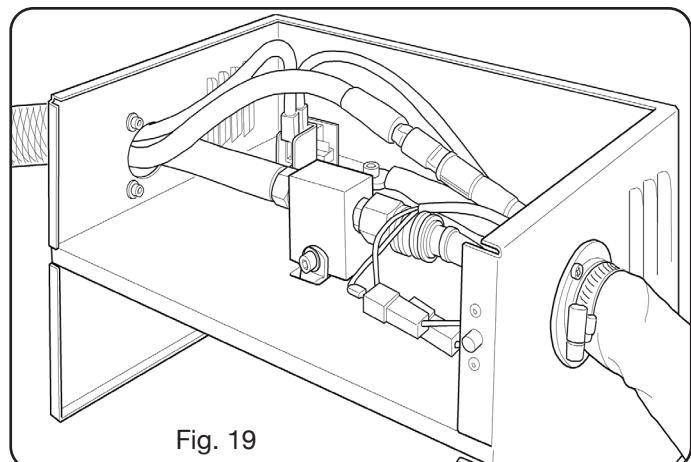

Fig. 19
- Insert a torch cable (art.1640,1642) in the HV19-1 Unit (art. 464) or in the HV19-19/PVC (art. 459) Unit as shown in the right part of figure 19.